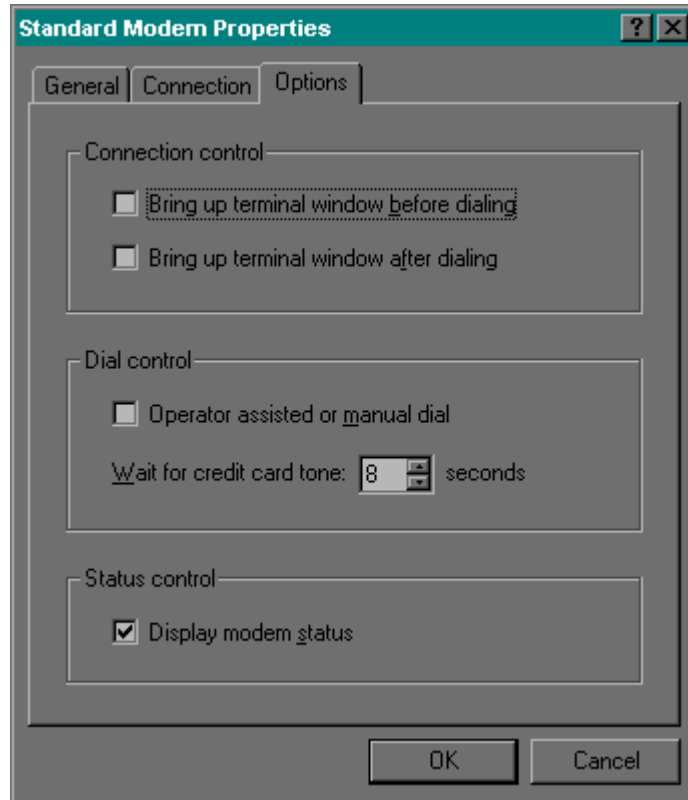

Figure 4-16. Modem Properties/Options window
11. Click on OK and then click on Options. This will bring you to the Modem Properties/Options window as shown in Figure 4-16. Setup your window with the same parameters as those shown in Figure 4-16.